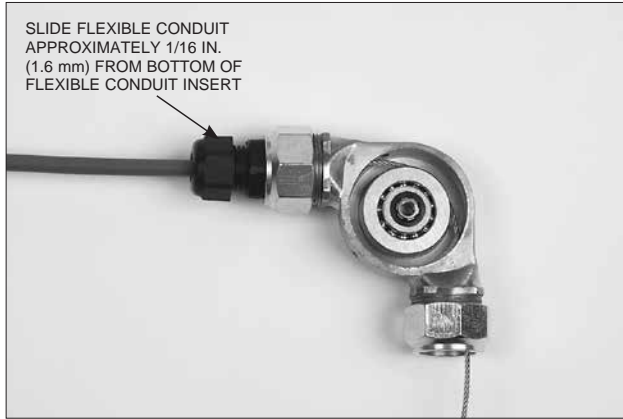

FIGURE 4-55
- Slide the flexible conduit into the strain relief until it is approximately 1/16 in. (1.6 mm) from the bottom of the flexible conduit insert. See Figure 4-55.